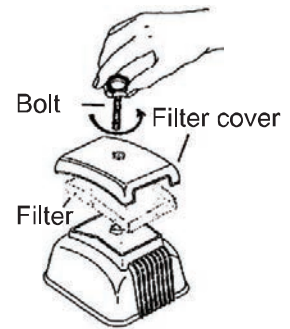

Figure 3
- I) Undo the cover bolt securing the filter cover to the pump housing, and remove the filter pad. (Figure 3)